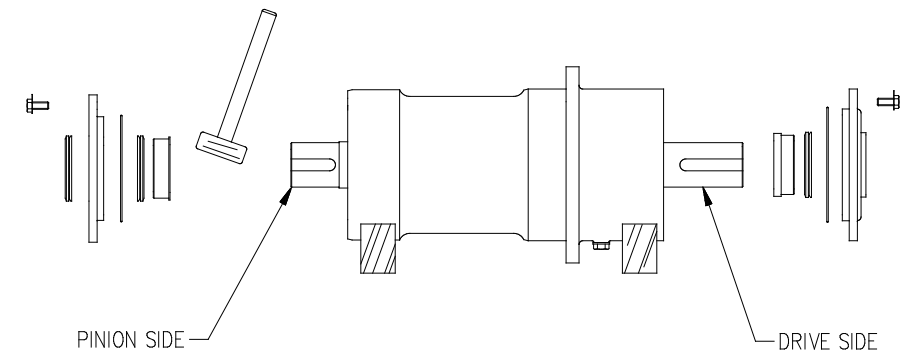

Fig. 6.10.1
1. Remove the covers and collars on both the pinion side and the drive side. (Fig. 6.10.1).